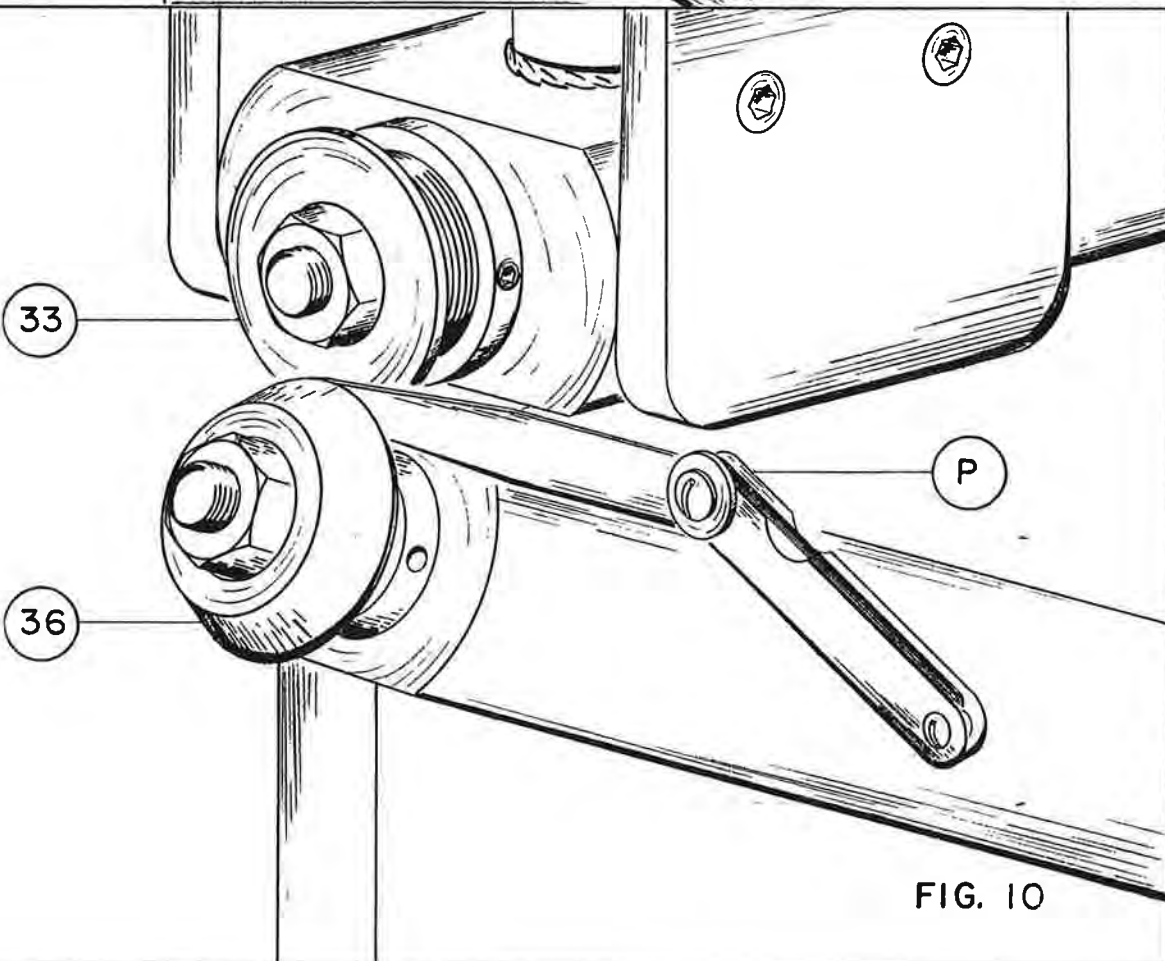

FIG. 10
To adjust the clearance between the cutting blades or the flanging rollers you will need a socket hex key to fit the 5/16 inch set screws, a lead hammer, two adjustable wrenches, and a feeler gauge #P Fig. 10 Page 13.
Next loosen both thrust nut set screws #32 & 27 (1). Check between the cutting blades with a feeler gauge as shown in Fig. 10 Page 13 to determine the clearance between the cutting blades. If the clearance is more than needed, approximately 10% of your material thickness, i.e., material .060 thousands equals .006 thousands clearance, you need to loosen the rear thrust nut #25 (1) by turning it to the left, as it is a right hand thread, then tighten the front thrust nut #31 (1) by turning it to the right, it is a right hand thread also, checking the clearance with your feeler gauge, as you turn the nut. Once you have determined the correct clearance, tap lightly on the front cutting blade retaining nut #34 (1) with your lead hammer, then tighten your front thrust nut set screw #32 (1). Now tighten the rear thrust nut #25 (1), while holding the shaft by the square at the rear of the shaft, making sure you do not tighten it too much and bind the bearings, see **“ADJUSTING END PLAY IN UPPER SPINDLE”** Page 18. Once again check the clearance between the cutting blades, if it is satisfactory, tighten the rear thrust nut set screw #27 (1).